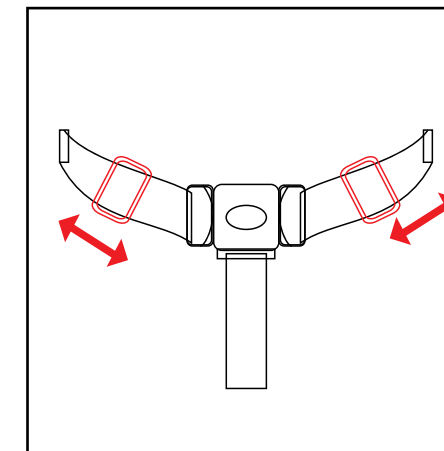

Fig.3
- 1.2 PLACE THE CHILD INTO THE SEAT CAREFULLY AND FASTEN THE BUCKLES OF LEFT STRAP, RIGHT STRAP AND CROTCH STRAP, THEY MUST BE BUCKLED TOGETHER. THEN YOU MUST ADJUST THE STRAP'S LENGTH FOR A SNUG FIT ACCORDING TO YOUR CHILD'S BODY SIZE.(FIG.3)